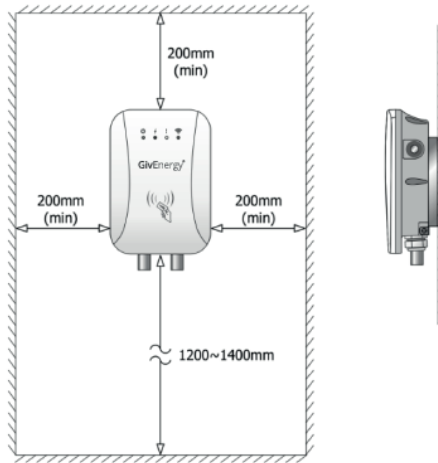

Fig. 1.2 Minimum space requirements for wall mounting
- Space requirement: when the charging station is fixed on the wall, the minimum space requirements are shown in Fig 1.2.